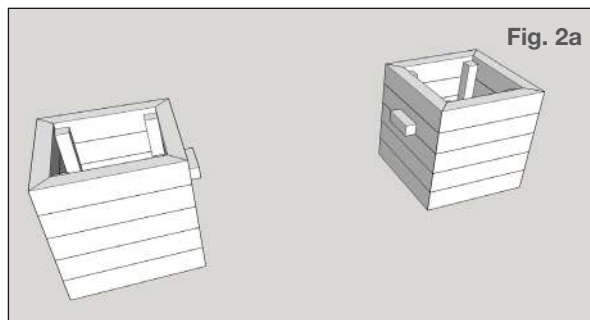

Fig. 2a
1. Place the two planters 1m apart with the trough supports on the sides of the planters facing each other. (Fig. 2a)